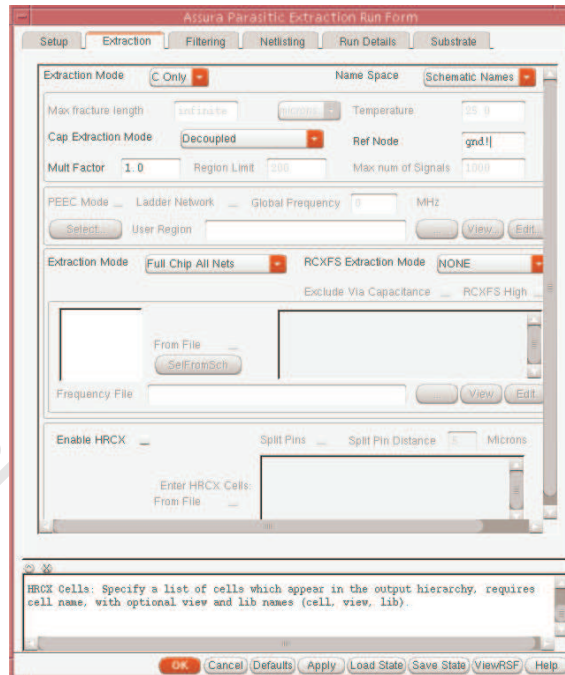

FIG. 39 Extraction folder of Assura RCX window
3. In the “Extraction” folder of Assura RCX window, select the “extraction mode” to “C only” (if you want to extract only C), set the “Name space” to “Schematic Names” and fill in the “Ref Node”(here we use “gnd!”)(Fig 39).